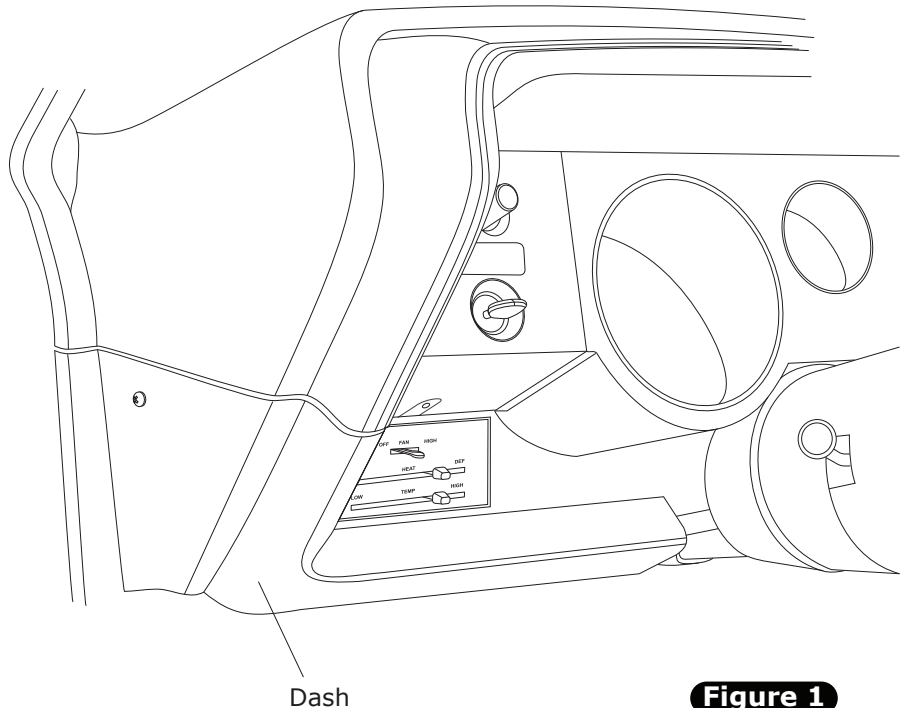

Figure 1
2. Remove the bottom portion of the dash (retain) (See Figure 1, below).